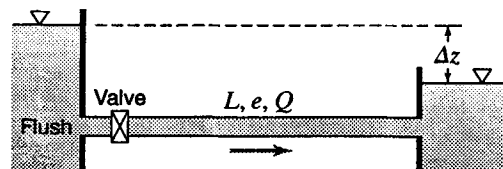

Figure P8.69
8.69 A 150-m-long commercial steel pipe is to convey 30 L/s of oil ( $s = 0.9$ ,  $\mu = 0.038 \text{ N}\cdot\text{s}/\text{m}^2$ ) from one tank to another (submerged discharge) where the difference in elevation of the free liquid surfaces is 2 m (Fig. P8.69). The pipe entrance is flush, and there is a fully-open gate valve in the line. Using only a basic scientific calculator, find the diameter theoretically required. (Hint: It may be easier to try for  $D$  than for  $f$  in this case.)